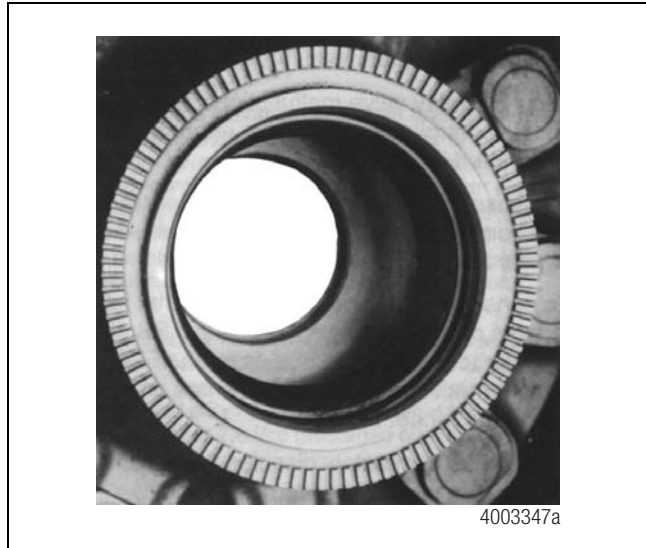

Figure 13.2
- **Tooth Wheel** — A 100 tooth wheel mounted to the hub or spoke wheel. Working with the sensor, it provides an AC voltage that represents wheel speed. Figure 13.2.